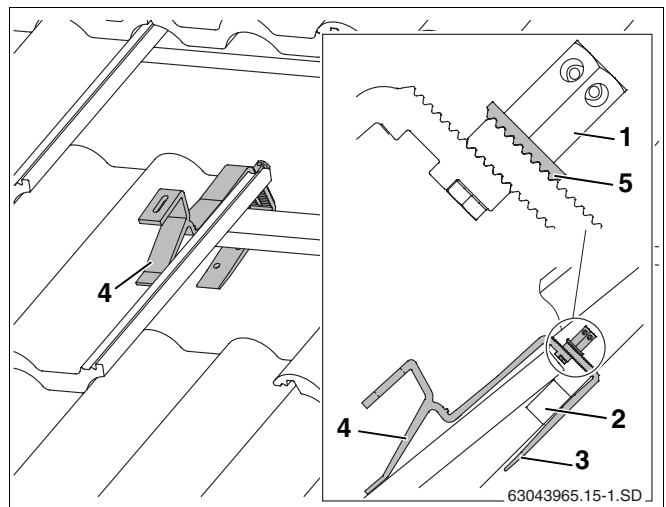

Fig. 12 Roof hook located in place (some tiles have been removed to show the example in more detail)
- ▶ Attach in the roof hook in such a way that the front brace lies in a tile trough (Fig. 12, **Item 4**).
- ▶ Push the lower part of roof hook (Fig. 12, **Item 3**) upwards until it touches the roof batten (Fig. 12, **Item 2**).
- ▶ Tighten the long hexagon nut (Fig. 12, **Item 1**). To do this, insert the size 5 Allen key into one of the holes in the hexagon nut and turn.
The serrated washer (Fig. 12, **Item 5**) must grip the teeth on the lower part of the roof hook.